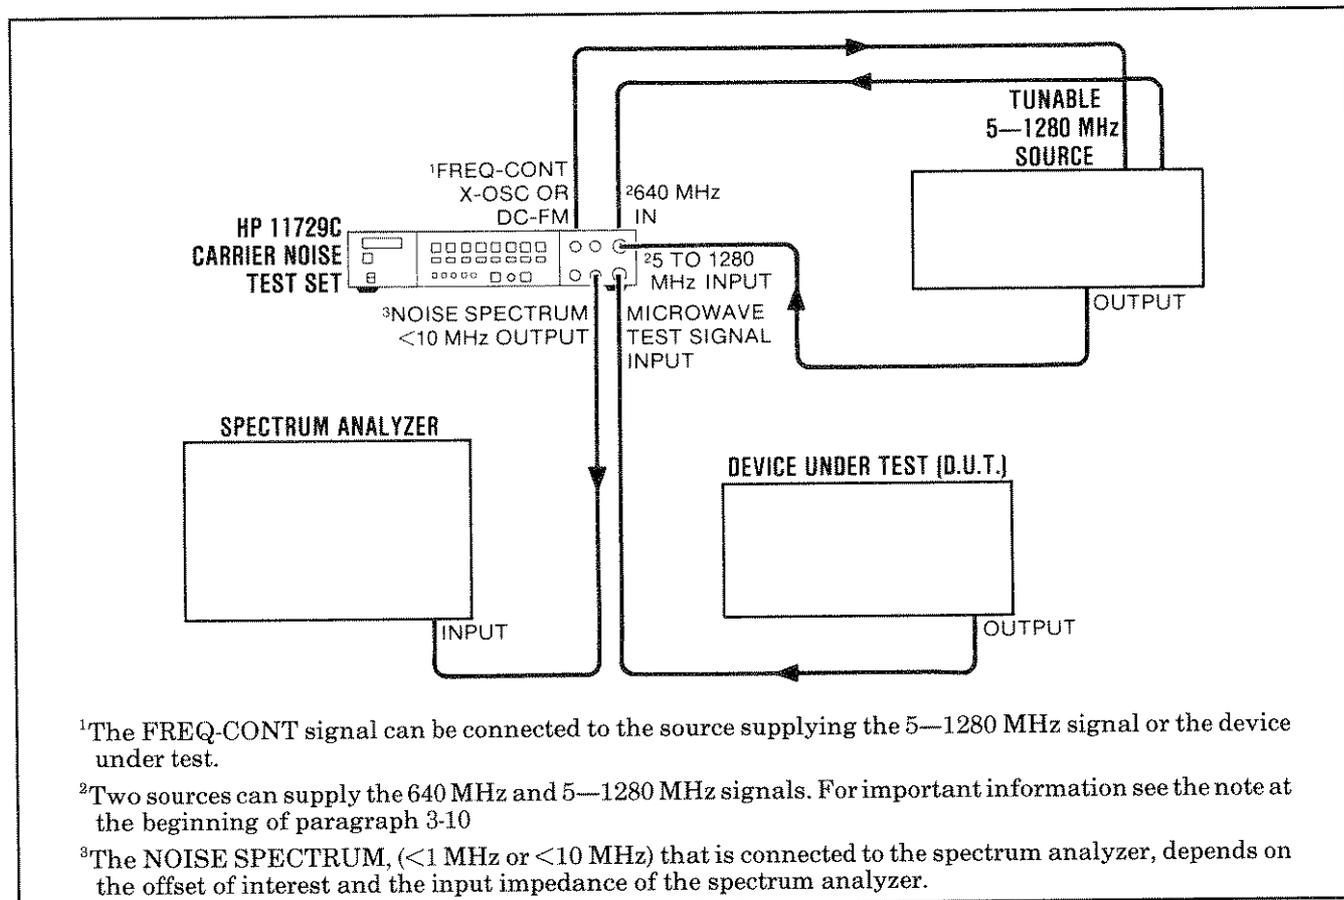

Figure 3-4. Interconnections to the Carrier Noise Test Set when making a Phase Noise Measurement (Using the Phase Detector Method)
1. Figure 3-4 shows the interconnections to the Carrier Noise Test Set when making a phase noise measurement.